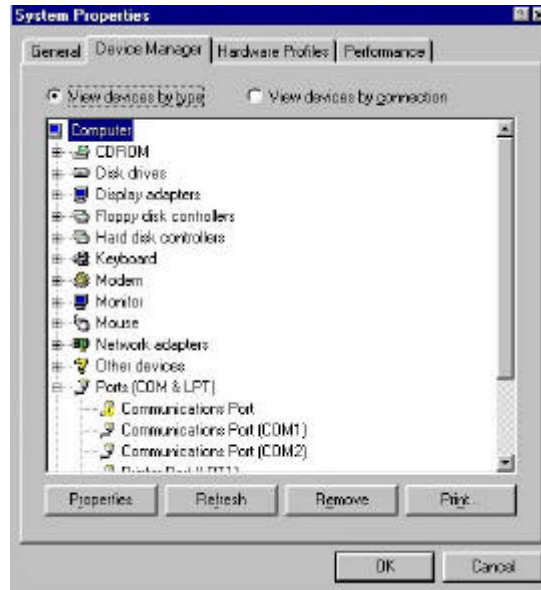

Figure 3.16 System Properties –Device Manager Dialog Box
3. The “System” dialog box will appear. Using the Mouse select the “Device Manager” tab and click on it (refer to Fig. 3.16) .